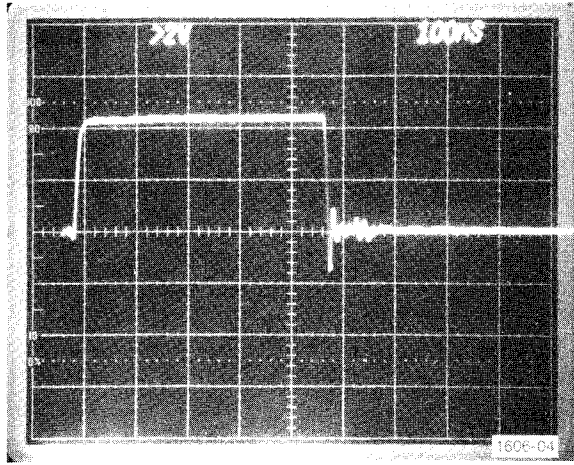

Fig. 2-2. Address Settling Time.
5. Adjust R80 for 4.5 division (450 nanoseconds). See Fig. 2-2.